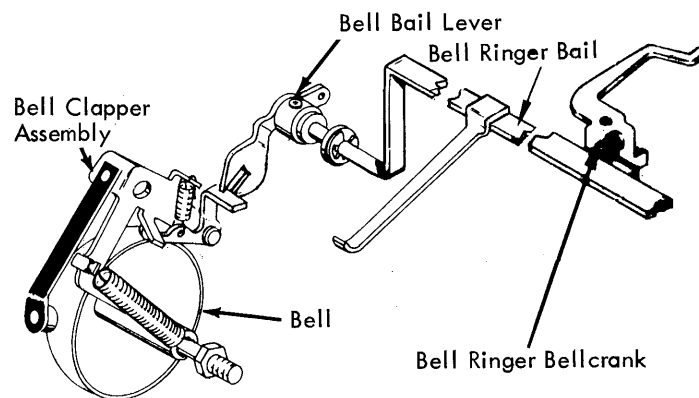

FIGURE 252. Bell Bail Lever (Late)
- b. Late - With the carrier positioned away from the right hand margin stop, adjust the bell bail lever located on the left end of the bellringer bail so that when the bottom portion of the lever is allowed to contact the underside of the bell clapper bellcrank lever a clearance of .005" to .020" will exist between the bellringer bail and the bellringer bellcrank (Fig. 252).